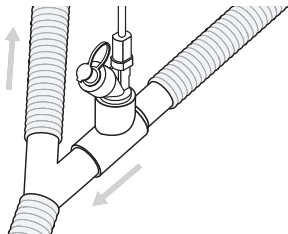

Figure 5. Connecting the Aerogen Solo to an adult breathing circuit
1. For 22mm **adult breathing circuits** connect the nebuliser with adult T-piece into the inspiratory limb of the breathing circuit before the patient Y (Figure 5).
For 15mm **paediatric breathing circuits** connect the nebuliser with the paediatric T-piece into the inspiratory limb of the breathing circuit before the patient Y, as shown for the adult T-piece in Figure 5.
The Aerogen Solo is suitable for use with mechanically ventilated tracheostomy patients (Figures 5, 7, 8 and 9).
The Aerogen Solo is suitable for use with non-invasive ventilation in a dual limb circuit as shown in Figures 5, 7, 8 & 9.